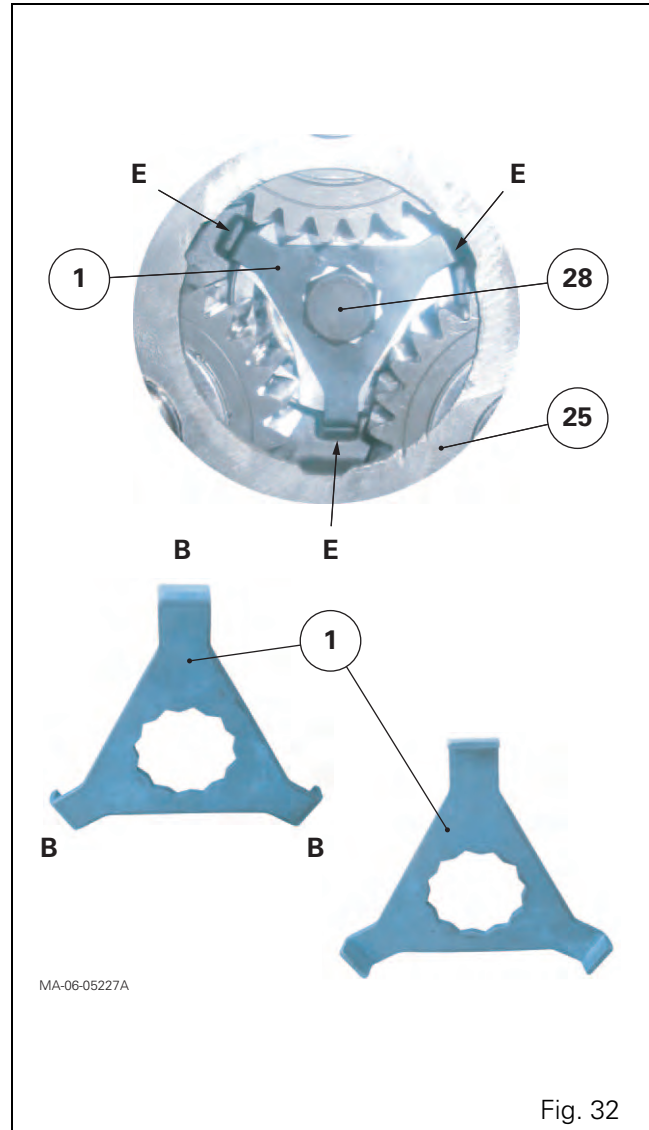

Fig. 32
106. Slide a lock washer (1) onto the head of the M24 screw (28). Ensure its tabs B are correctly housed in moulded slots E of the planet carrier (25) (Fig. 32). If this is not the case, repeat the step with the second lock washer; if this is still not the case, repeat the step with the third. Depending on the result (either no washer is suitable or a washer is selected), proceed to step 107 or 108.